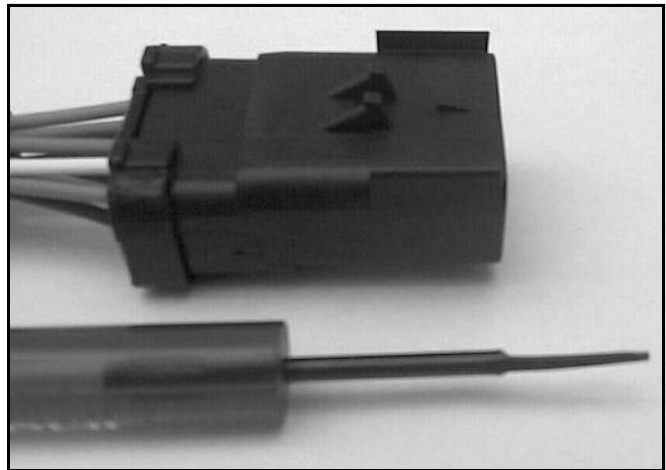

Figure 2
4. Relocate the wires from the Black connector to the Gray connector one-by-one, using a pick tool or anything with a thin/narrow tip: (See Figure 2.)